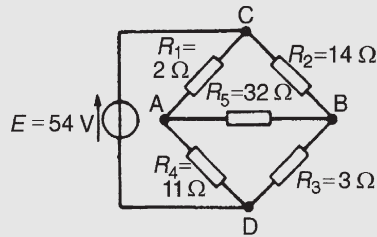

Figure 13.47
**Problem 12.** A Wheatstone Bridge network is shown in Fig. 13.47. Calculate the current flowing in the 32 Ω resistor, and its direction, using
Hence the current in the 32 Ω resistor of Fig. 13.47 is 1 A, flowing from A to B.